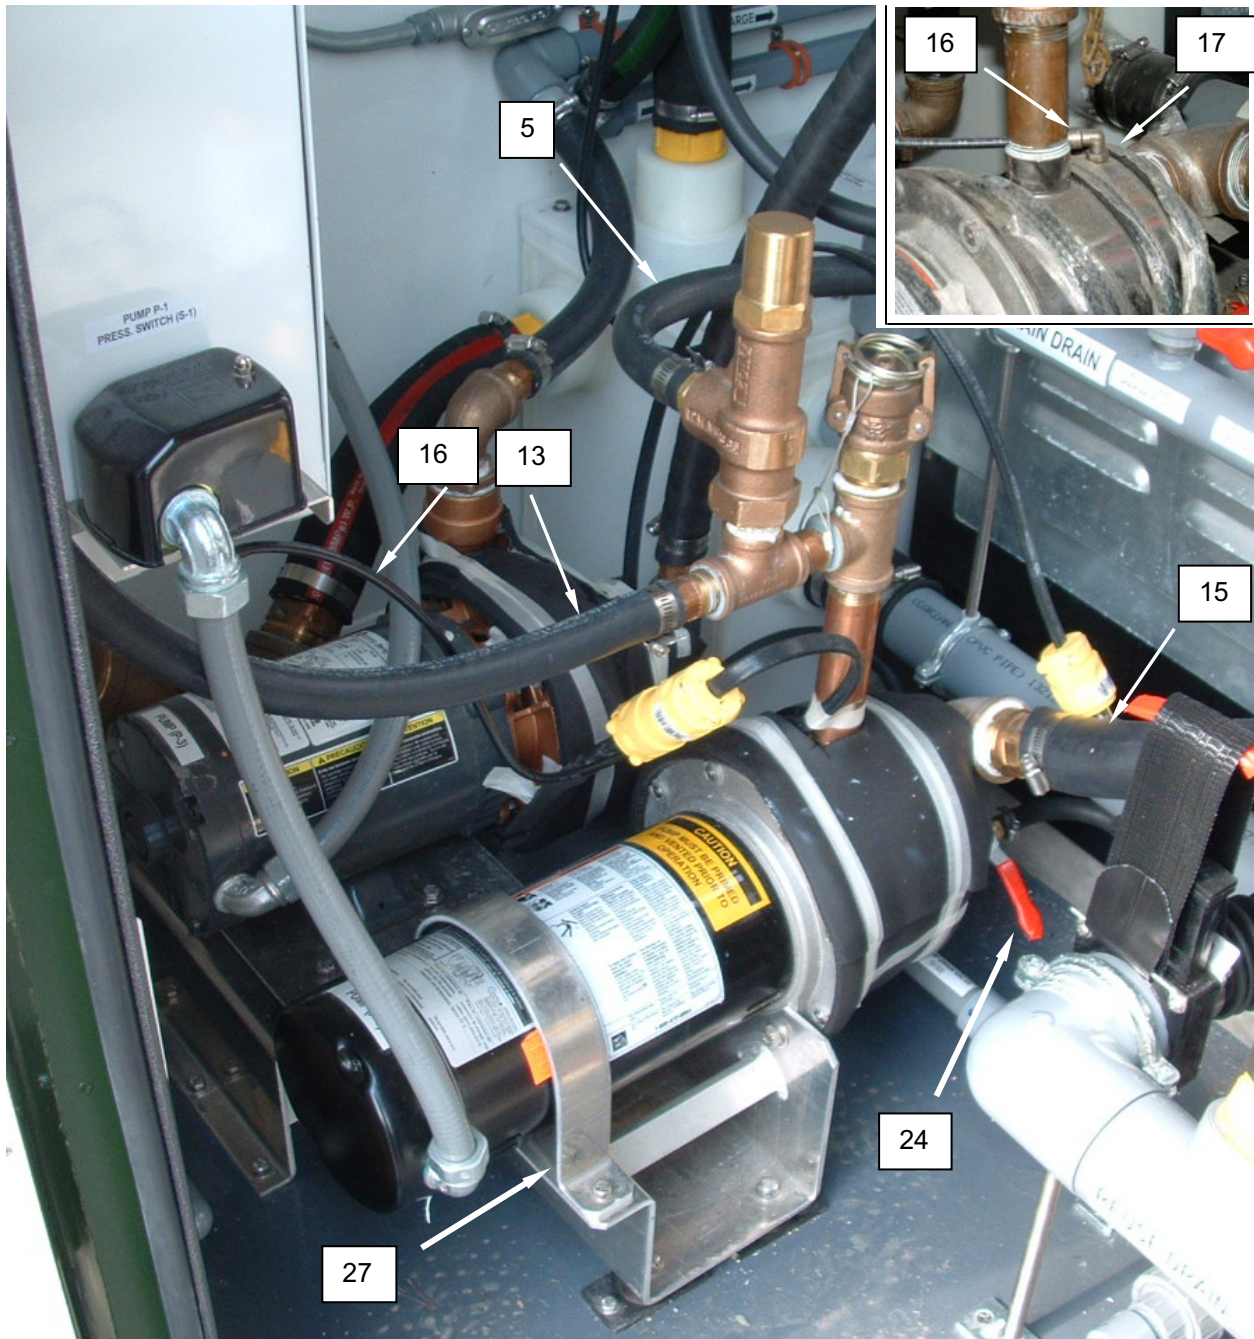

Figure 15. Replace the Pump Motor.
20. Install the pressure switch tubing (**Figure 15, Item 16**) onto the pump casing (**Figure 15, Item 17**) and retain with compression nut.
21. Install the pump suction hose (**Figure 15, Item 15**) onto the hose barb and retain with hose clamp.
22. Install the pressure relief valve hose (**Figure 15, Item 5**) and retain with hose clamp.
23. Install the discharge hose (**Figure 15, Item 13**) and retain with hose clamp.
24. Install the motor mounting strap (**Figure 15, Item 27**) and retain with screw and nuts.
26. Close pump drain valve (**Figure 15, Item 24**). Operate IAW procedures given in TM 10-3510-226-10 and monitor for normal operation.